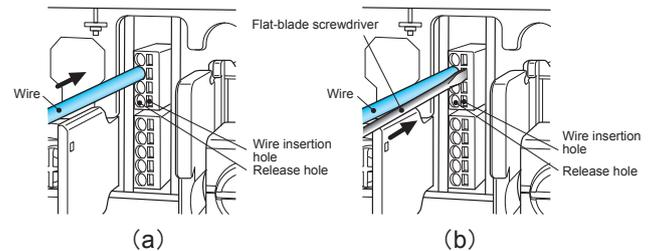
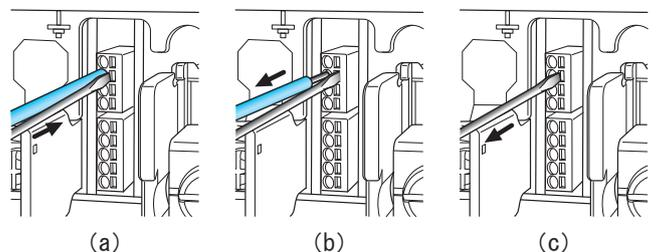

Fig.6.11 Connecting method of Ferrule terminal and Solid wire
Fig.6.12 Releasing method of Ferrule terminal, Solid wire and Stranded wire
- Fig.6.11 and Fig.6.12 is the how to connect/release the wire.
Step1: Insert the wire until the electrode is not visible. (Refer to the fig.6.11(a).)
Inserting a flat-blade screwdriver into the release hole makes it easier to insert. (Refer to the fig.6.11(b).)
Step1: Insert a flat-blade screwdriver into the release hole. (Refer to the fig.6.12(a).)
Step2: Remove the wire with the flat-blade screwdriver inserted in the release hole. (Refer to the fig.6.12(b).)
Step3: Remove the flat-blade screwdriver from the release hole. (Refer to the fig.6.12(c).)